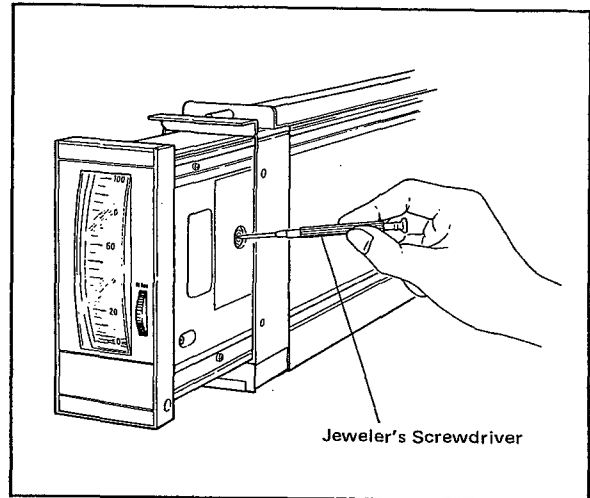

Figure 6-3. Setpoint Indicator Zero Adjustment.
- (1) Turn the manual setting wheel until the digital voltmeter reads 1V, 2V, 3V, 4V, and 5V DC.
- (2) Ensure that the manipulated output pointer (blue) indicates the 0%, 25%, 50%, 75%, and 100% points respectively within $\pm 0.5\%$ accuracy.
- (3) If the indicated value does not agree with the specified accuracy, adjust the setpoint index zero in accordance with the following procedure.
- (4) Turn the manual setting wheel until the digital voltmeter reads 3V DC.
- (5) Adjust the setpoint index zero until the setpoint index reads 50% (see Figure 6-3).
- (6) Repeat steps (1) and (2) and then steps (3) to (6) until the indicator reads within the specified accuracy.
- (1) Turn the manual setting wheel until the digital voltmeter reads 1V, 2V, 3V, 4V and 5V DC.
- (2) Ensure that the manipulated output pointer (blue) indicates 0%, 25%, 50%, 75% and 100% points respectively within $\pm 1.0\%$ accuracy while the digital voltmeter reads 1V, 2V, 3V, 4V, and 5V DC.
- (3) If the indicator does not fall within the specified accuracy, adjust the setpoint index zero according to the following procedure.
- (5) Adjust the setpoint index zero until the setpoint index reads 50%. See Figure 6-3.
- (6) Repeat steps (1) and (2) and then steps (3) to (6) until the indicator reads with the specified accuracy.